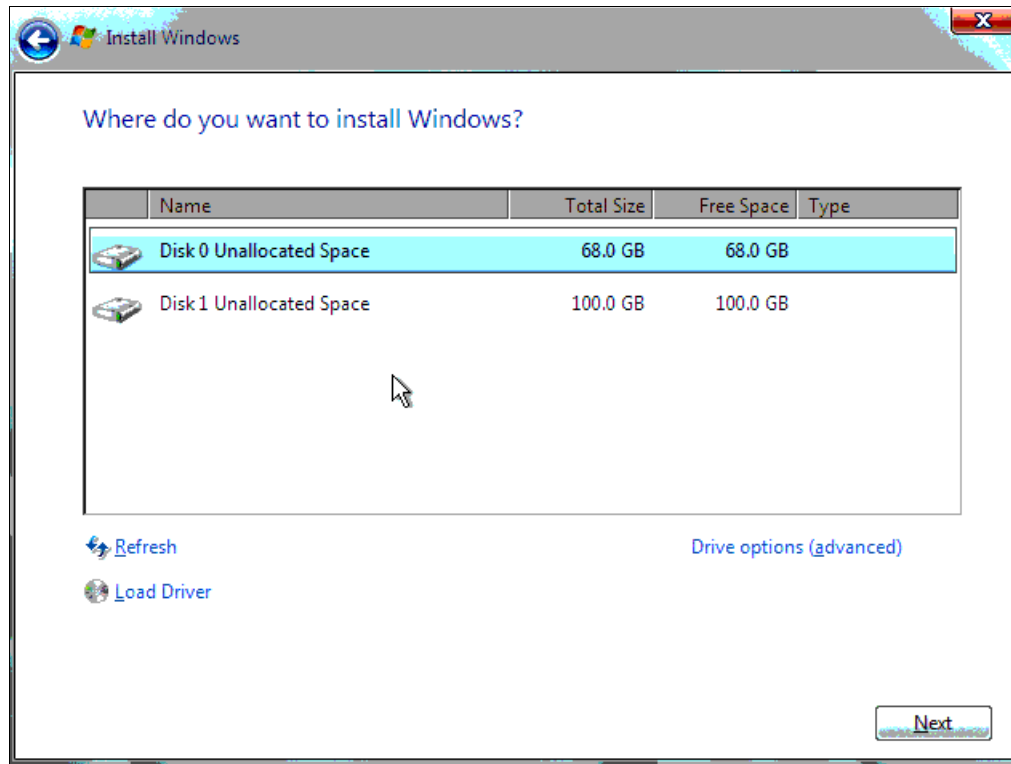

Figure 4-39 Selecting disk for Windows installation
7. On the “Where do you want to install Windows?” panel (Figure 4-39), select the partition where you want to install the Windows EBS Messaging server operating system. In our test environment, we prepared a 68 GB mirrored volume for the operating system, and a 500 GB RAID-5 volume for Exchange data. Click **Next**.